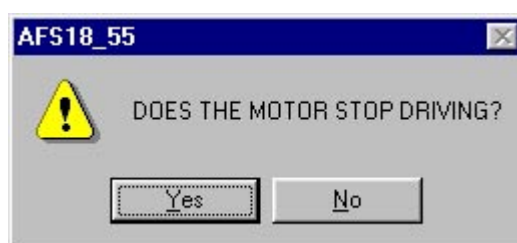

Fig.1
- ⑤ When the above Fig.1 is displayed, if the motor driving stops, select "Yes" to complete the adjustment. In case the motor does not stop driving, select "No" to make adjustments again. In case the motor does not stop driving even after the readjustments, adjust the MR duty again and repeat "ADJUSTMENT FOR DRIVING FREQUENCY & MOTOR CONTROL". If the adjustment is not successful in spite of the above, the SWM unit, fix-tube unit, or MR head unit may be defective.